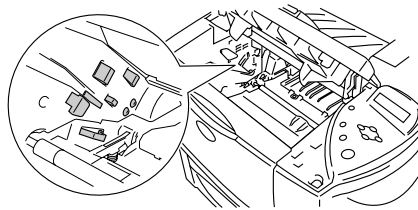

Figure 5-23
- To prevent damage to the printer from static electricity, do not touch the electrodes shown in Figure 5-23.